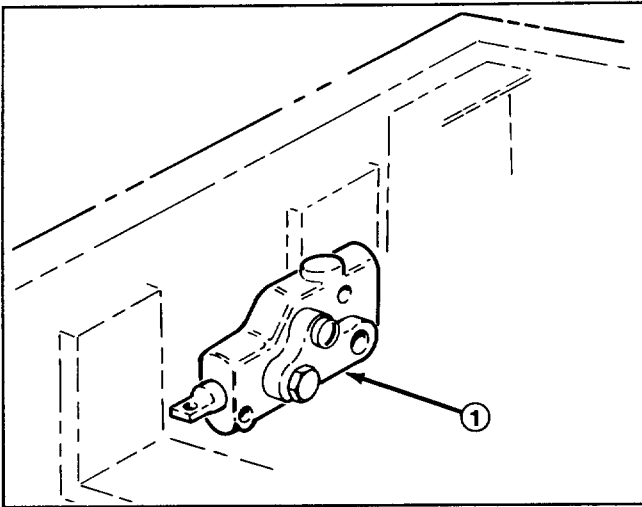

Figure 1
1. Place a drain pan under lift valve (Fig. 1) on right side of machine.
2. Disconnect return line (Fig. 1), from bottom of lift valve (line goes to radiator).
5. Loosely mount appropriate tube assemblies to fittings on right and left sides of valve, positioning them as shown in figure 1.